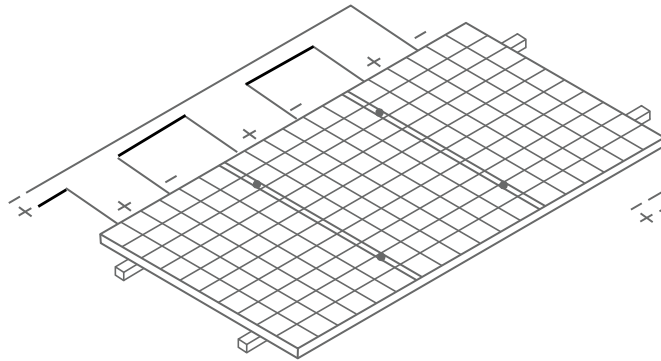

Figure 4 Connection in Series
- It is not allowed to use the Modules in different models in the same solar photovoltaic system. When the Modules are connected in series, the voltage of every string shall not be higher than the maximum voltage of the system (as shown in Figure 4). Reference equation of the maximum number of the Modules in serial connection: $\text{maximum system voltage of the module} / (1.25 * \text{open-circuit voltage})$.